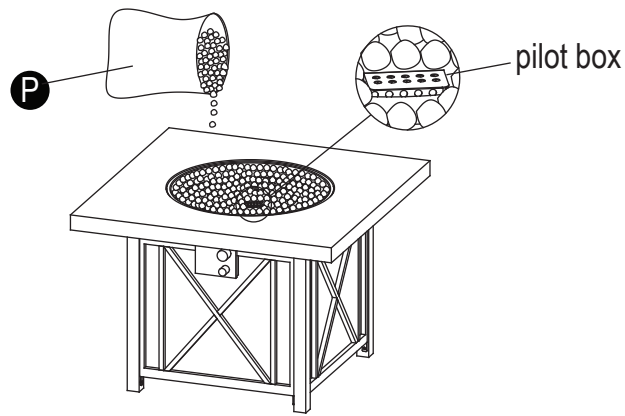

Figure 9
10. Open the box of lava rocks, put the lava rocks (M) into the fire bowl of the fire table (B) (see Figure 9). A gas fire pit requires 13.2 lbs lava rocks.